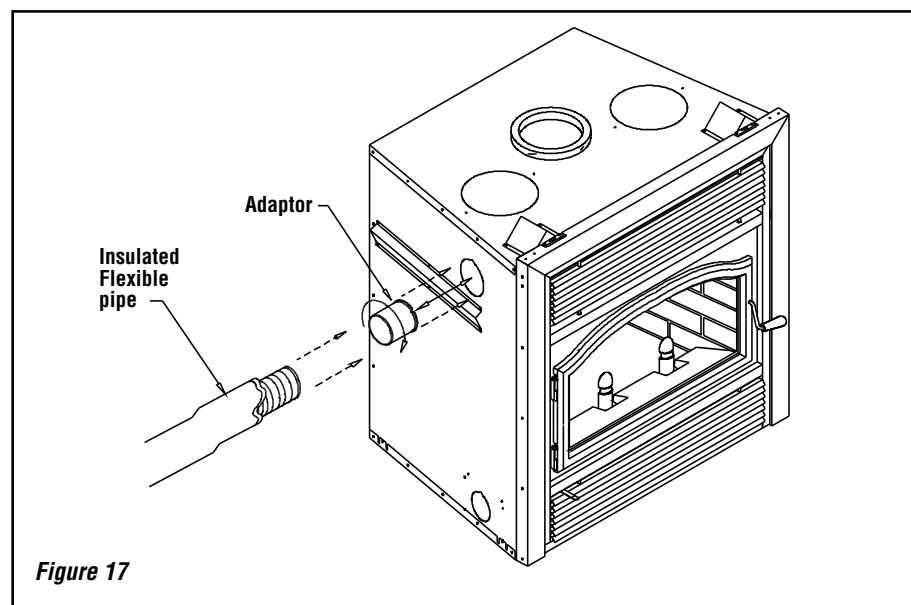

Figure 17
- A) Fix the adaptor at the back and/or the side of the fireplace by twist-locking the adaptor to the fireplace. You can use more than one outlet on the fireplace (**Figure 17**).